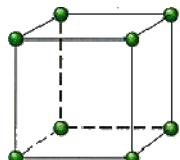

Figure 1
- iv. The dots in Figure 1 represent the centers of the atoms.